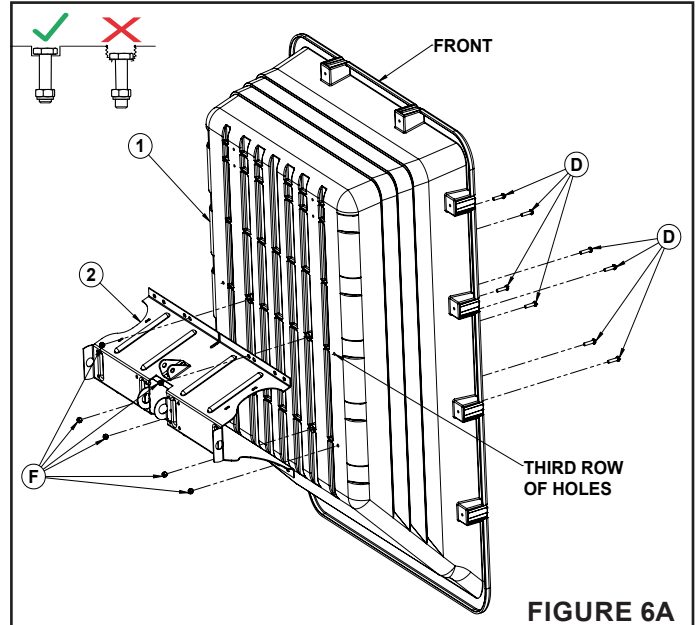

FIGURE 6A
STEP 6: (SEE FIGURE 6A AND 6B)